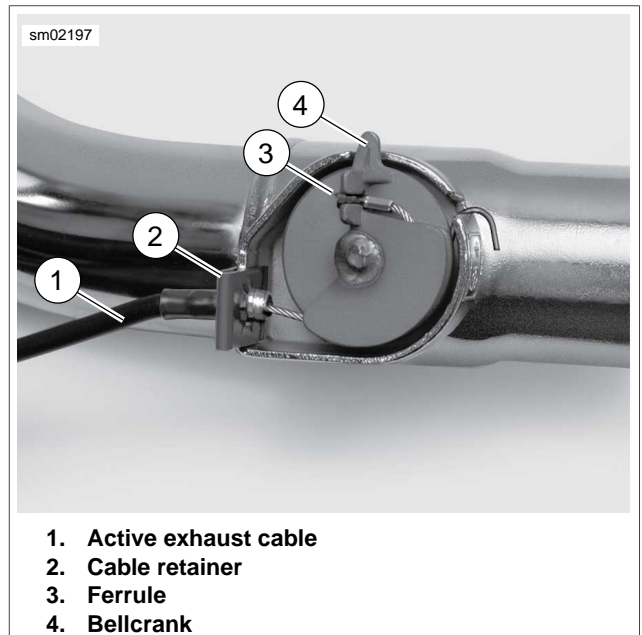
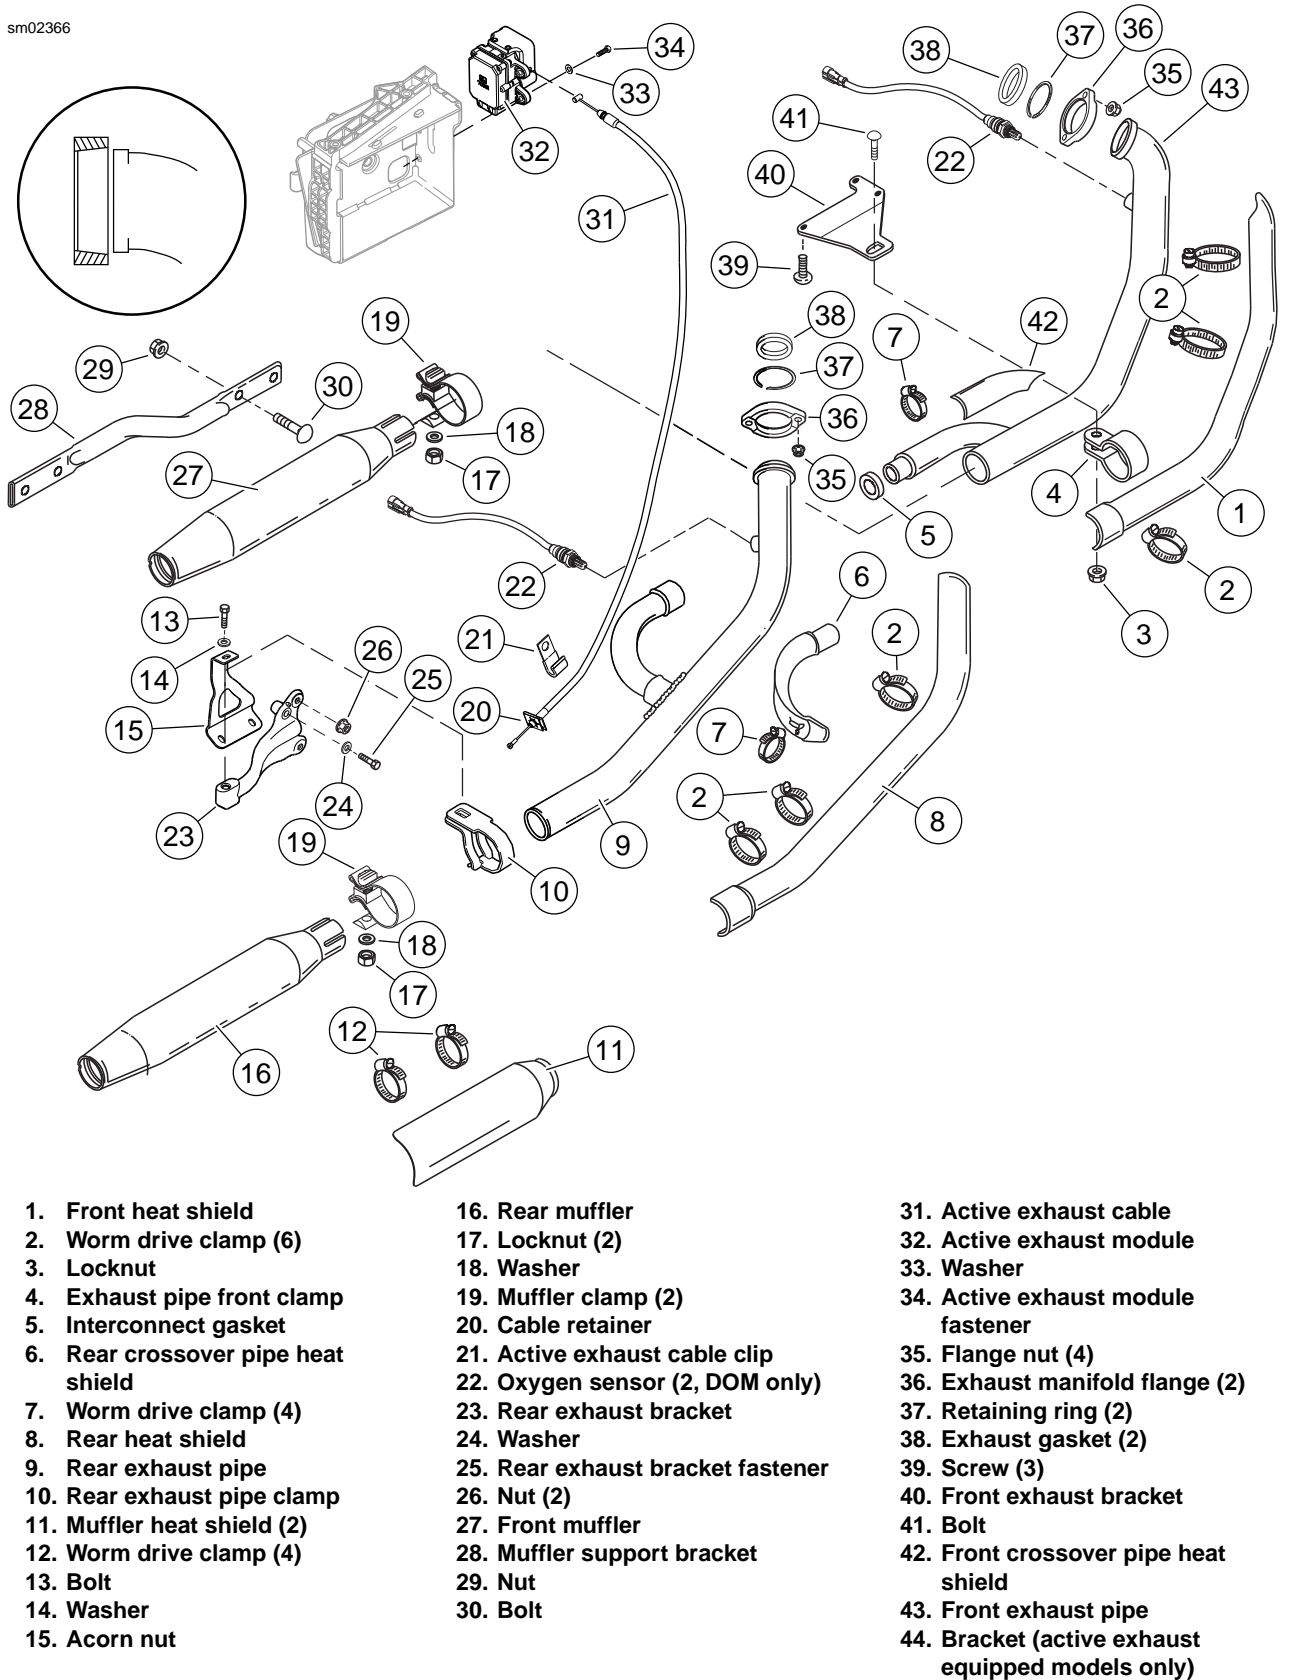
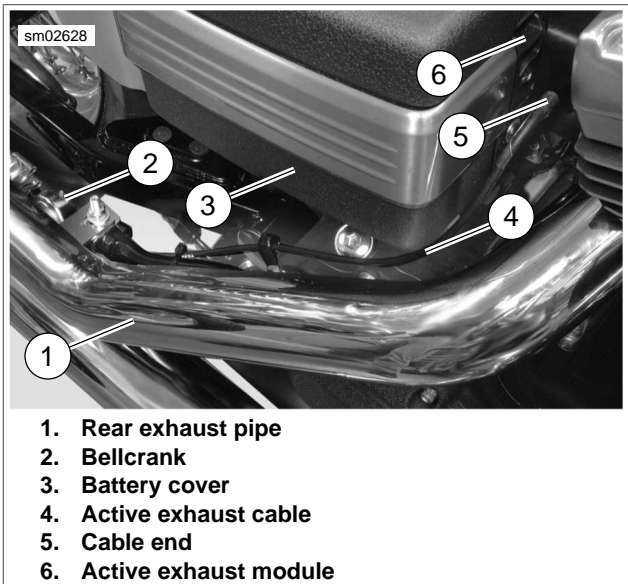

Figure 4-62. Bellcrank
Figure 4-63. Exhaust System: All But FXDF
Figure 4-64. Active Exhaust Bellcrank Location
4. See Figure 4-62. On models with an active exhaust module, remove active exhaust cable (1):
- a. Remove cable (1) and retainer (2) from exhaust pipe.
- b. Remove ferrule (3) from bellcrank (4).
5. See Figure 4-63. Remove muffler support bracket nuts (29) from bolts (30). Remove muffler support bracket (28).
6. Loosen locknuts (17) on muffler clamps (19) to exhaust pipes. Remove mufflers (16, 27).
7. Loosen or remove heat shields (1, 8) by opening worm drive clamps (2).
8. Remove flange nuts (35) from front and rear cylinder head exhaust studs.
9. Remove locknut (3) and bolt (41) attaching front exhaust pipe clamp (4) to front exhaust bracket (40).
10. Remove bolt (13), acorn nut (15) and washer (14) attaching rear exhaust pipe clamp (10) to rear exhaust bracket (23). Remove bracket (44) if equipped.
1. See Figure 4-63. Free front exhaust pipe (43) from rear exhaust pipe (9) by twisting and separating at crossover pipe.
2. Examine exhaust gaskets (38) and retaining rings (37) in cylinder head exhaust ports. Replace if necessary.
3. Replace the front (42) and rear (6) crossover pipe heat shields, if necessary.
4. Remove interconnect gasket (5) from crossover pipe bell on rear exhaust pipe.
1. See Figure 4-63. If front (42) and rear (6) crossover pipes heat shield were removed, install now.
2. Insert **new** interconnect gasket (5) into crossover pipe bell on rear exhaust pipe (9). Connect rear exhaust pipe to front exhaust pipe (43) at crossover pipe.
- See inset in Figure 4-63. Replacement exhaust gaskets (38) are tapered internally. Be sure the thin end goes over the exhaust pipe. Also check condition of retaining ring (37) before installation.
1. Position ends of exhaust pipes into front and rear cylinder head exhaust ports with holes in exhaust manifold flanges (36) over cylinder head exhaust studs. Loosely thread on flange nuts (35).
2. Position front exhaust pipe clamp (4) on front exhaust bracket (40). Install bolt (41) and locknut (3). Do not tighten nut and bolt at this time.
3. Position rear exhaust pipe clamp (10) and bracket (44) (if equipped) on rear exhaust bracket (23). Install bolt (13), washer (14) and acorn nut (15). Do not tighten nut and bolt at this time.
9. Open the worm drive clamps (2) and install heat shields (1, 8).
10. Tighten nuts (29) to 15-19 ft-lbs (20.3-25.8 Nm).
11. Align mufflers. Tighten muffler clamp nuts (17) to 45-50 ft-lbs (61.0-67.8 Nm).
12. See Figure 4-62. On models with an active exhaust module, install active exhaust cable (1) to bellcrank (4):
- a. Install ferrule (3) in bellcrank.
- c. Install cable retainer (2) on exhaust pipe.
- d. See Figure 4-64. Ensure cable is properly routed and secured.